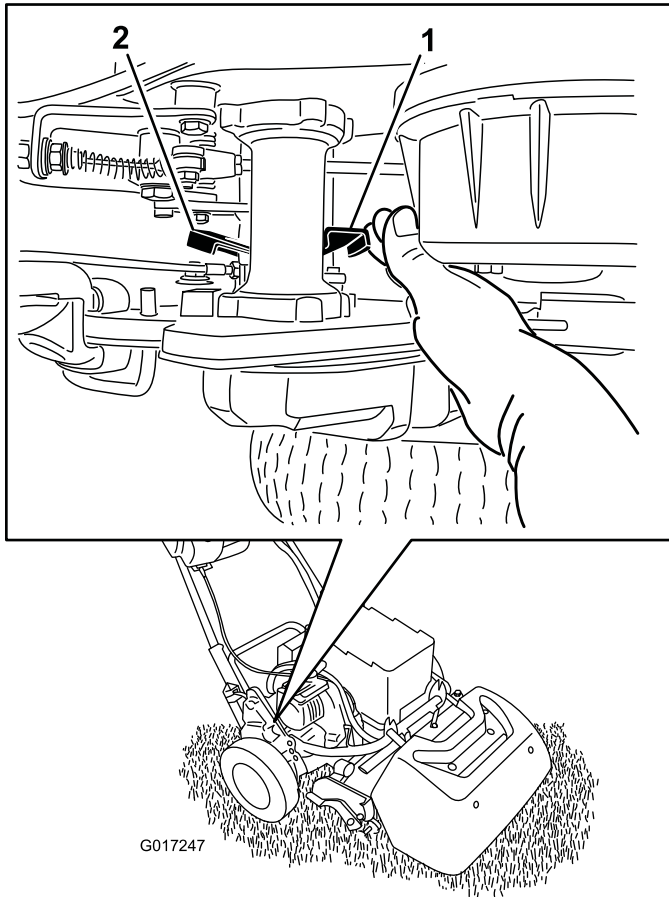

Figure 33
1. On the right rear corner of the machine, locate the traction engage/disengage lever next to the drive housing drum (Figure 33).